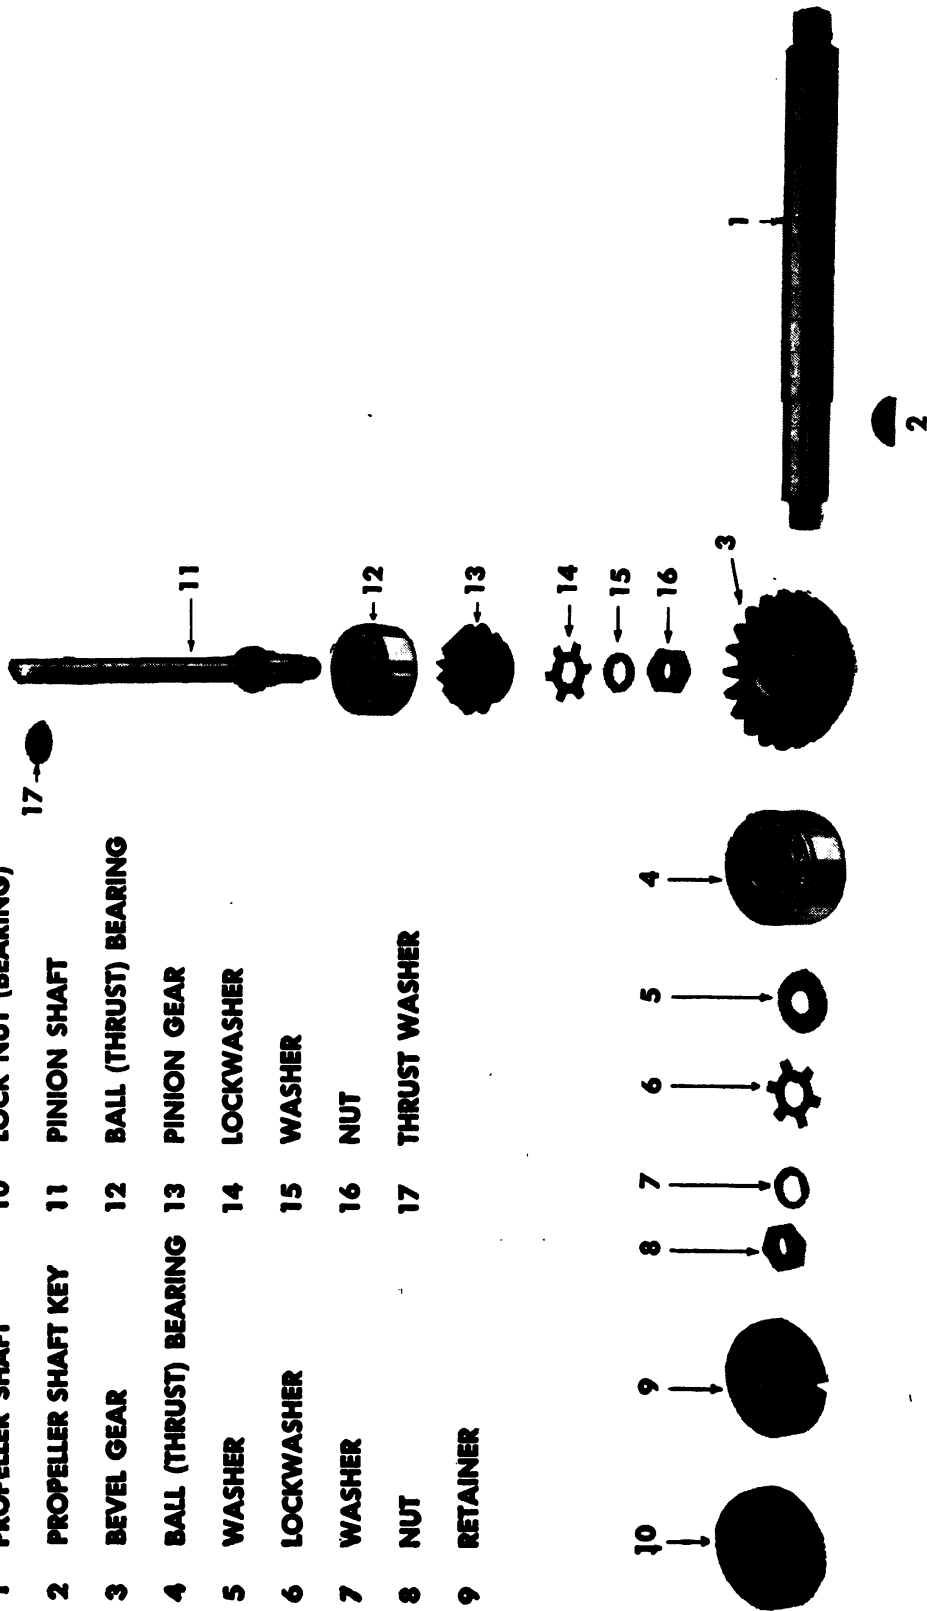
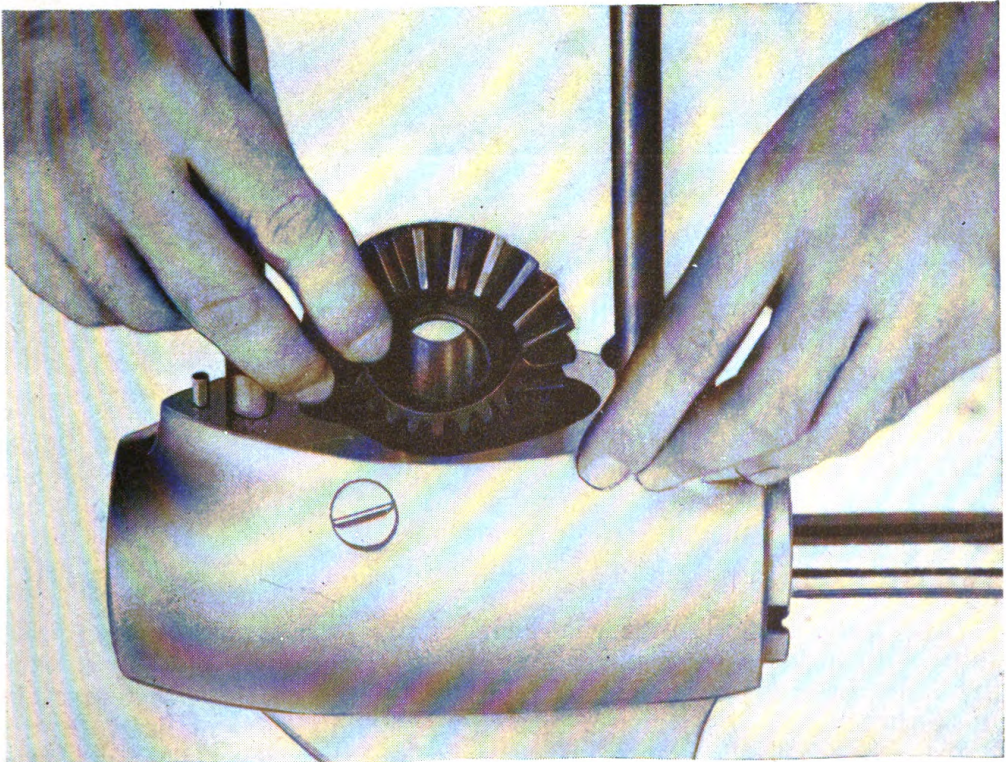

Figure 113. Gearcase assembly.
Figure 115. Inserting bevel gear in gearcase.
(2) Withdraw propeller shaft until it is on verge of coming out of bearing on propeller end. Insert bevel gear as shown in figure 115. Turn gear around in gear case to permit sliding propeller shaft through hole.
(3) Install Woodruff key in propeller-shaft keyway. Key must be installed when end of propeller shaft has been inserted in gear case. Propeller shaft cannot be pushed through bearing in gear case with key installed.
(4) Key must line up with keyway in gear. Push propeller shaft through gear until gear is up against shoulder on the shaft. Continue pushing propeller shaft until it enters hole in ball bearing. Then tap lightly on end of propeller shaft to force bearing down in seat and gear up to shoulder of shaft. Note small pin protruding at end of bearing seat inside gear case. Drive in propeller shaft, gear, and bearing assembly until bearing comes to rest against this pin.
(5) Install large washer, lock washer, small washer, and nut in order as laid out in figure 113. Tighten nut with fingers for time being.
(6) Slip ball bearing over end of pinion shaft followed by gear, lock washer, plain washer, and nut as shown in figure 113. Draw up tightly on nut to make certain assembly is secure on pinion shaft. Bend all six lugs on lock washer up and against sides of nut to prevent its turning and becoming loose.
k. INSTALL BUSHING IN GEAR CASE. (1) Since the gear case has one bushing (propeller-shaft bearing) and one ball bearing (propeller-shaft thrust bearing), only one reaming operation is required when replacing propeller-shaft bearing. The ball bearing is removed and replaced as a unit. (See figs. 113 and 118.)
1. INSTALL BEARING IN PINION-SHAFT CASING. (1) The pinion-shaft casing, like the gear case, has one bushing and one ball bearing. Consequently, only one reaming operation is necessary to install new bearing. To install a new bushing the old one must be driven out and a new one pressed in, while the ball bearing is removed and replaced as a unit. (See figs. 113 and 118.)